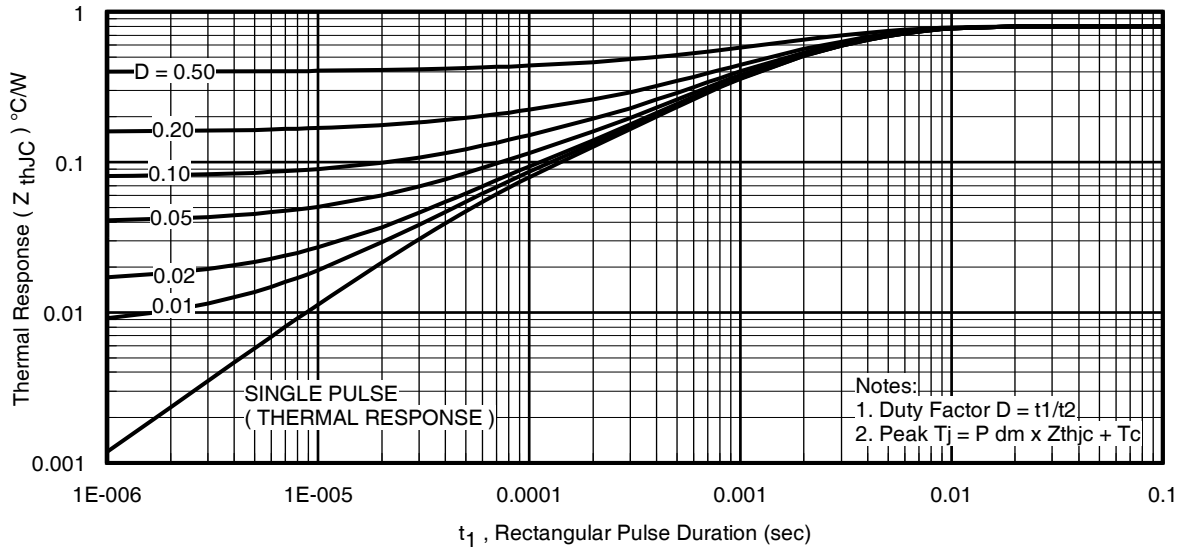

Fig 14. Maximum Effective Transient Thermal Impedance, Junction-to-Case
Notes on Repetitive Avalanche Curves , Figures 14, 15:
7. ΔT = Allowable rise in junction temperature, not to exceed T_{jmax} (assumed as $25^{\circ}C$ in Figure 14, 15).